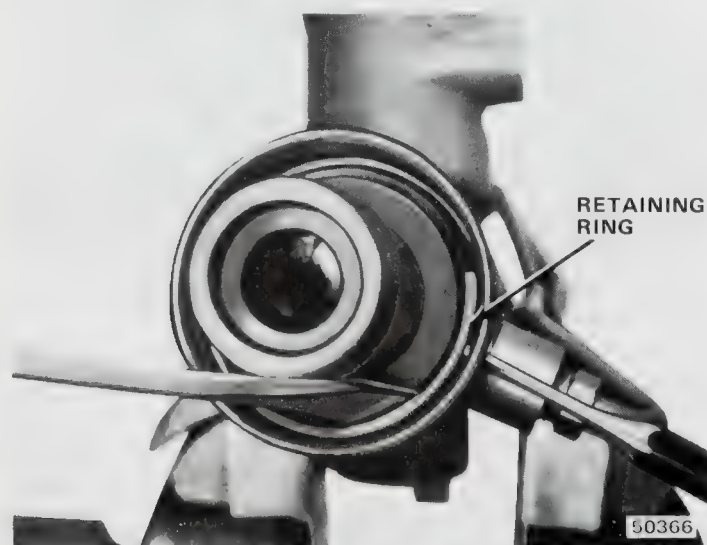

Fig. 2K-67 Bulkhead Retaining Ring Removal
(20) Pull steering rack and inner and outer bulkheads out of tube-end of gear. As rack is removed, rack piston will push bulkheads out of tube at same time (fig. 2K-68).